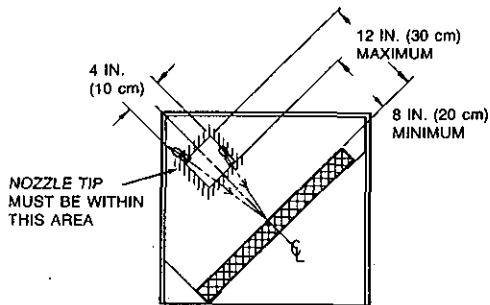

FIGURE 26
- Option 2:** The 1W nozzle must be placed perpendicular, 8-12 in. (20-30 cm) from the face of the filter and angled to the center of the filter. The nozzle tip must be within 2 in. (5 cm) from the perpendicular center line of the filter. See Figure 26.